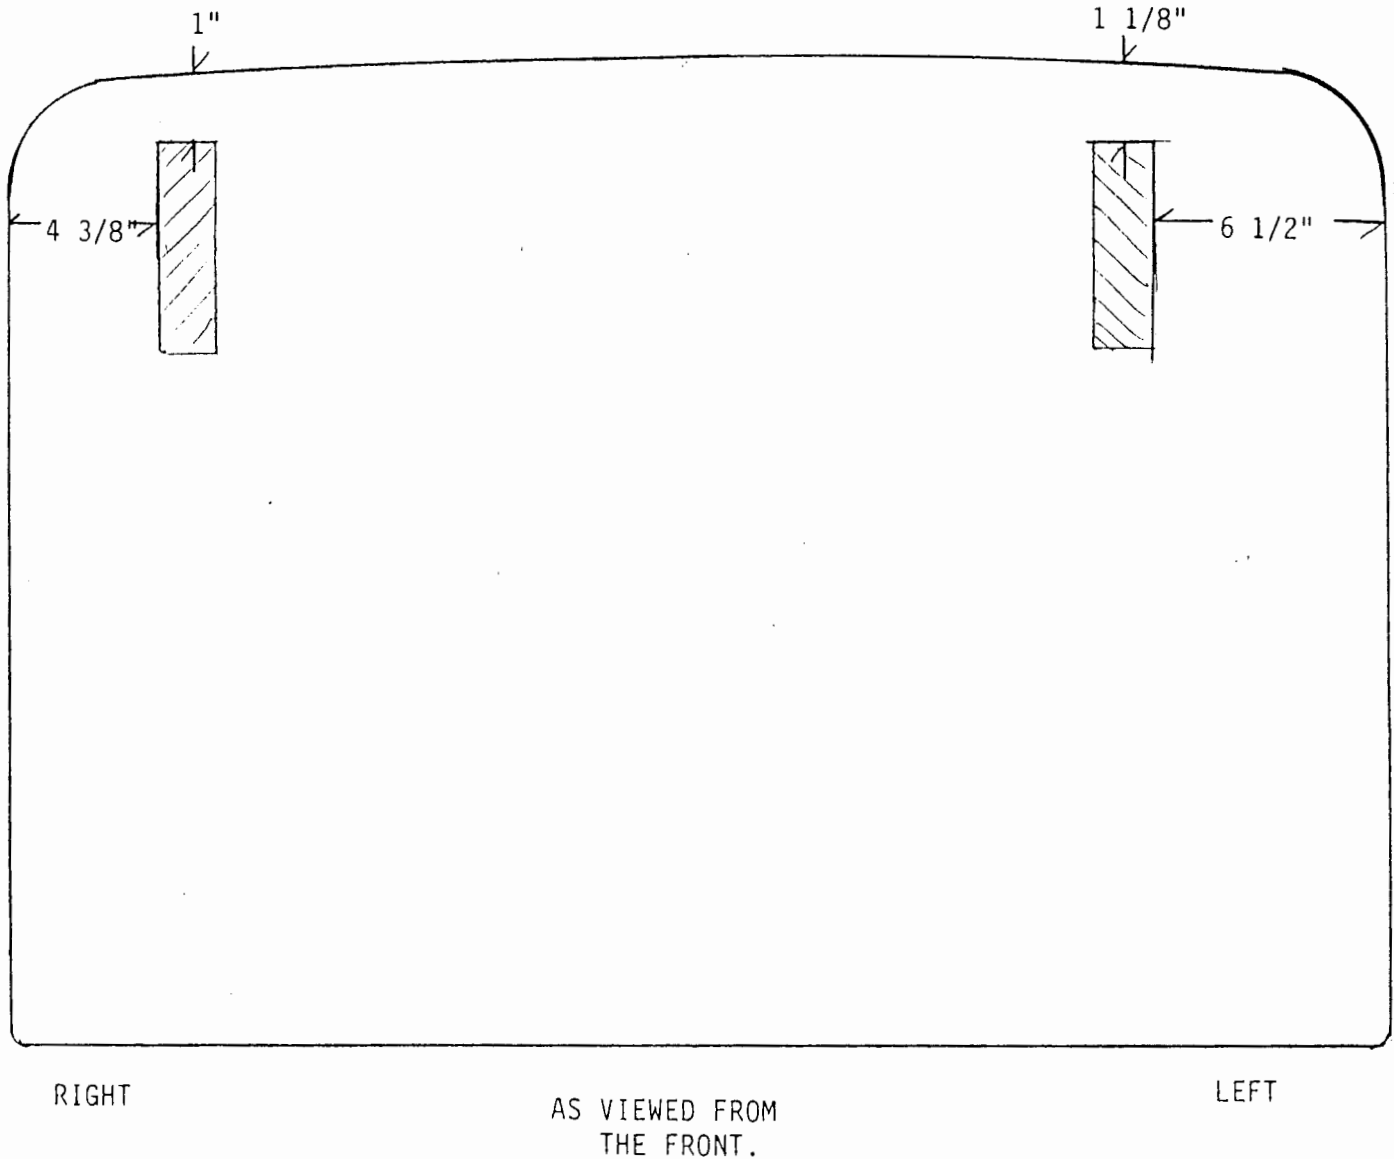

FIGURE 017-08
7. Locate the bottom baffle (see parts drawing) so the slot for the starter rope is open to the back and to the left side. Rivet to the mounts with (2) 1/8" aluminum pop rivets in each end.
8. Mark off the firewall as shown in Figure 017-08. This locates the two top mounts. Hold the radiator up to the firewall on these marks. If the fit checks out, mark the location of the lower mounts before removing.